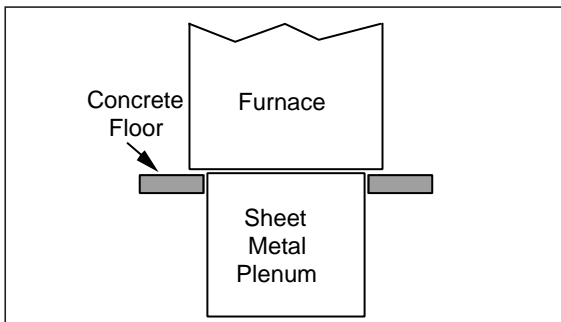

Figure 3. Furnace on a Concrete Slab
2. Place the plenum and the furnace as shown in Figure 3.